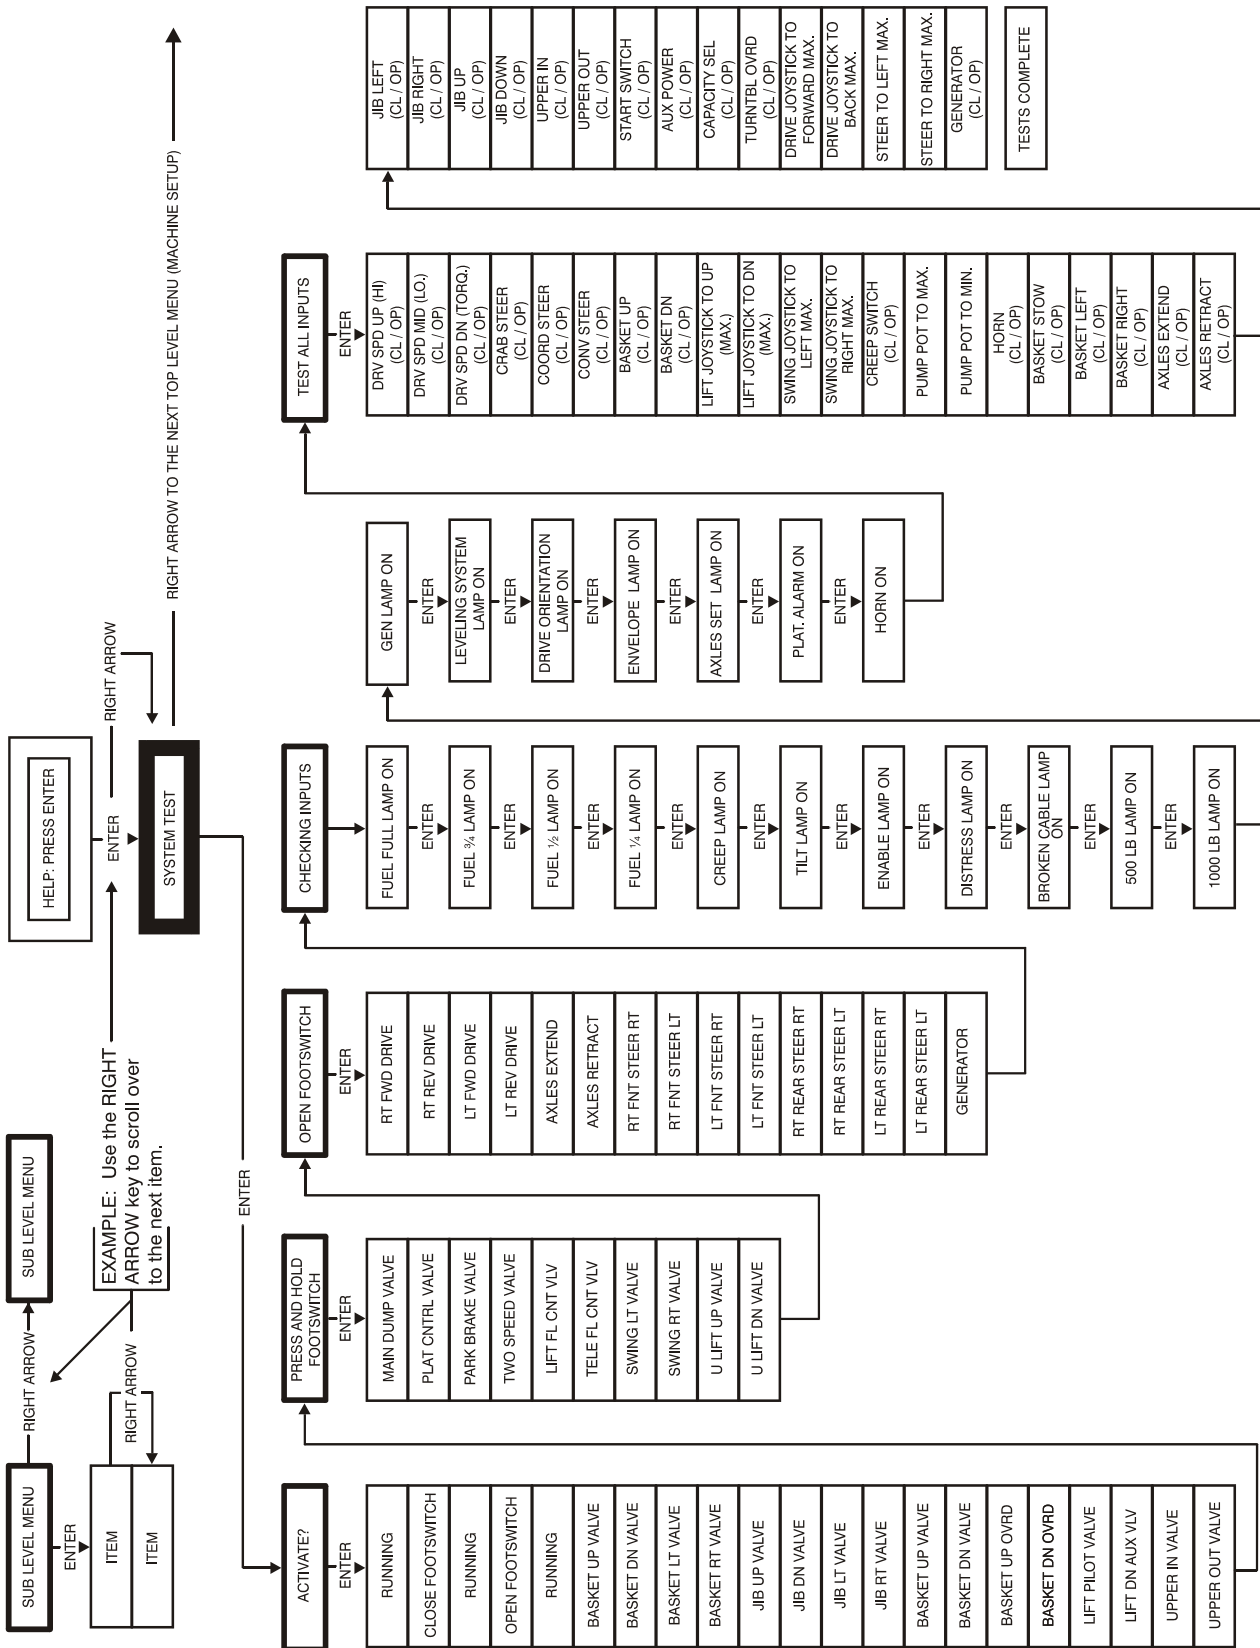

Figure 6-12. System Test Flow Chart - Platform Tests
7. Follow the flow path in Figure 6-12., System Test Flow Chart - Platform Tests and go through the component tests. Hit the ESC key during any part of the test to return to the main menu without completing all tests or wait until all tests are complete. During the TEST ALL INPUTS sequence, the analyzer allows control switches to be operated and shows if they are closed (CL) or open (OP).